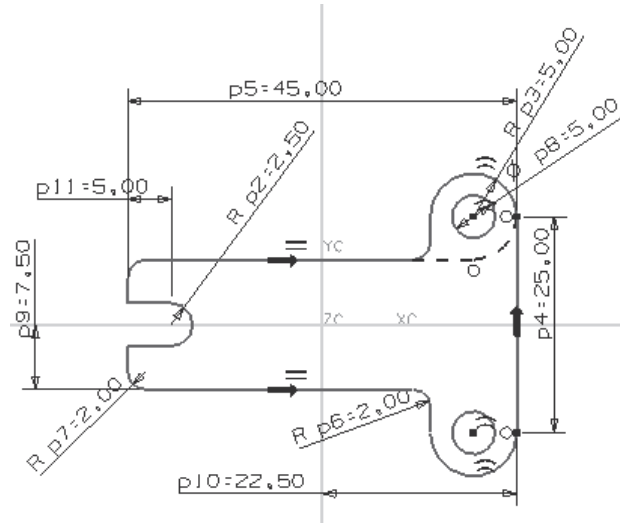

Figure 4-60 Sketch for the base feature
- Create the base feature of the model on **FIXED_DATUM_PLANE (0)**, refer to Figures 4-60 and 4-61.
4. Invoke the sketching environment using FIXED_DATUM_PLANE (0) and draw the sketch similar to the one shown in Figure 4-60.